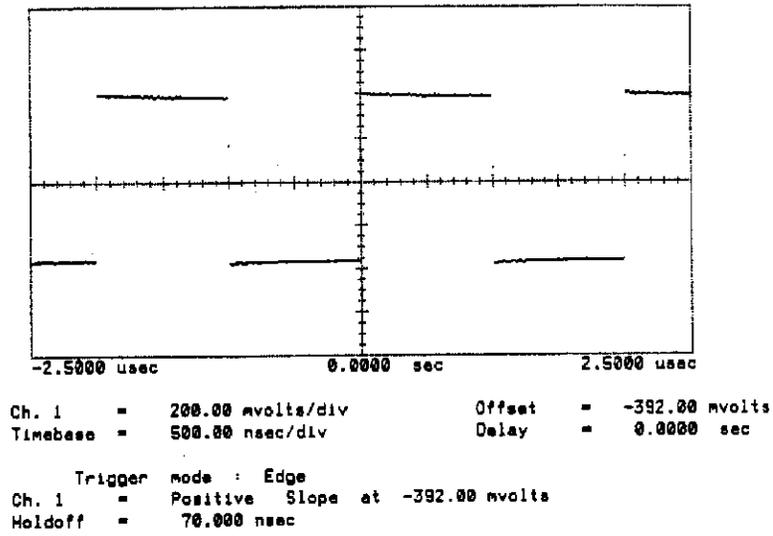

Figure 7-18. Averaged Mode (8 Averages)
5. Set NUMBER OF AVERAGES to 8 (see figure 7-18).
6. Select the Normal mode (see figure 7-19). Compare figures 7-18 and 7-19 and notice the reduction of noise on the Averaged display. The larger the number of averages the greater the reduction of the displayed noise and the longer it takes to respond to any change in the input signal.